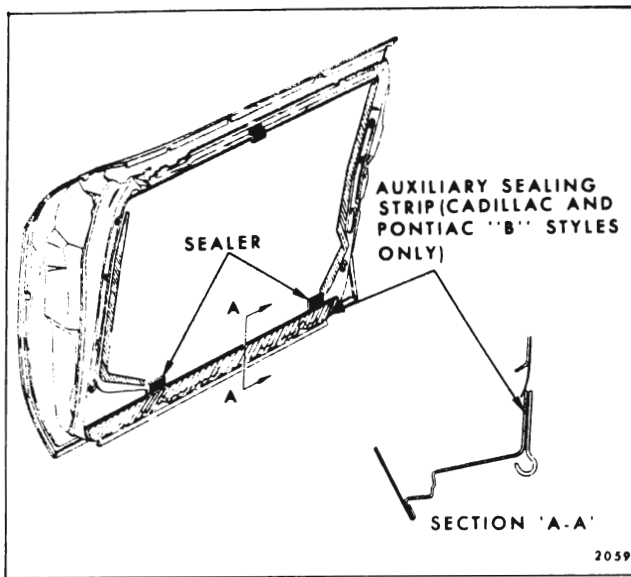

Fig. 6-7—Door Inner Panel Sealing
section "A-A", Fig. 6-7, the upper edge of the strip is aligned with the water deflector drain slot. The rolled, semi-bulbular section of the sealing strip extends down below the door trim pad when the trim is installed and fills the opening between the door and door sill plate.
of deflector. Make certain tool blade is between inner panel and string that is imbedded in sealer (Fig. 6-7).
- When seal has been broken down both sides of deflector, carefully remove tape from inner panel at lower corners of water deflector. Disengage water deflector from inner panel drain slot and remove deflector. On styles so equipped, it will be necessary to partially remove door bottom auxiliary sealing strip to permit removal of tape at bottom of deflector (Fig. 6-7).